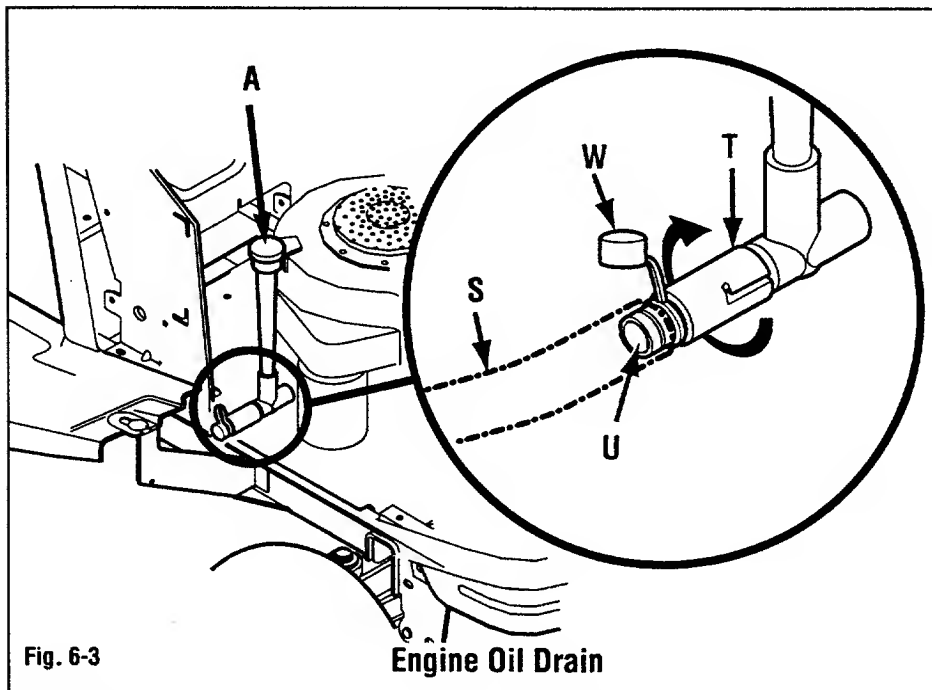

Fig. 6-3
- Remove oil fill cap (A, Fig. 6-3).
- Remove protective cap (W) to expose oil drain port (U) on oil drain fixture (T).
- Push oil drain hose (S) (included with unit) onto oil drain fixture. Route other end of hose to an appropriate waste oil collection container.
- Push in and twist oil drain fixture to the closed position. Remove and store hose (S). Replace protective cap (W).